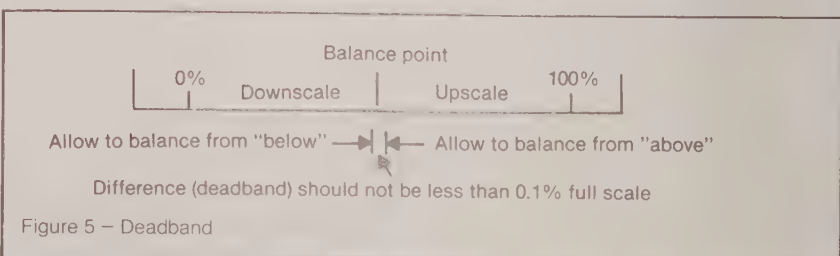

Figure 5 — Deadband
2. Set the stepping switch of the portable pot to a millivolt output equal to 50% of range span. Note the position of pointer on scale. Turn the stepping switch to drive pointer upscale and slowly return it to its original set millivolt position. Note the position of the pointer on scale. If the difference between the two points (deadband) exceeds 0.1%, increase amplifier gain (clockwise adjustment). Deadband should not be adjusted below 0.1%, since it may increase the instrument's susceptibility to electrical noise signals. (Figure 5)